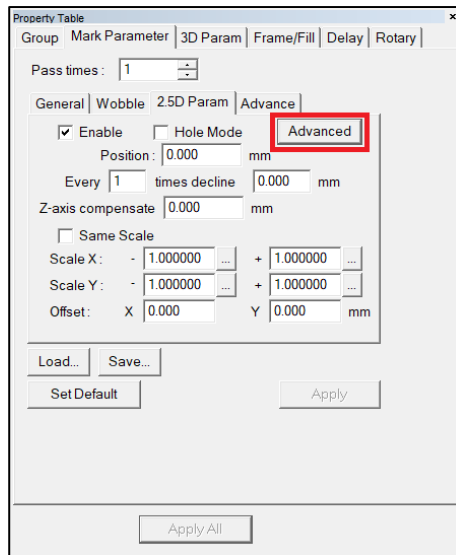

Fig.3.2.12
3. Go to the object "Property table" → "Mark Parameter" → "2.5D Param" page → click "Advanced", as shown in Figure 3.2.12.